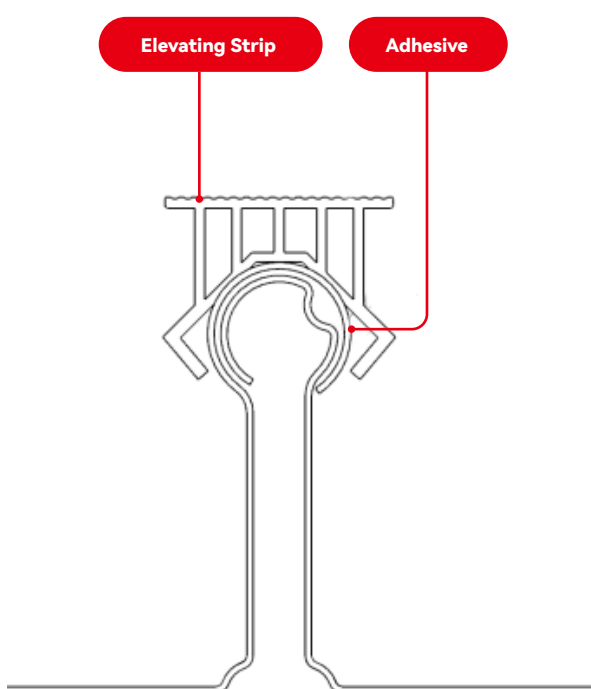

**FIGURE 24**
① First determine the installation position of the clamps, then carry out the snapline as the installation axis, the centre line of each row of clamps should be  $816 \pm 2\text{mm}$  apart, note that the snapline is at an angle of 90 degrees to the rib of the colour steel tile (Figure 24)